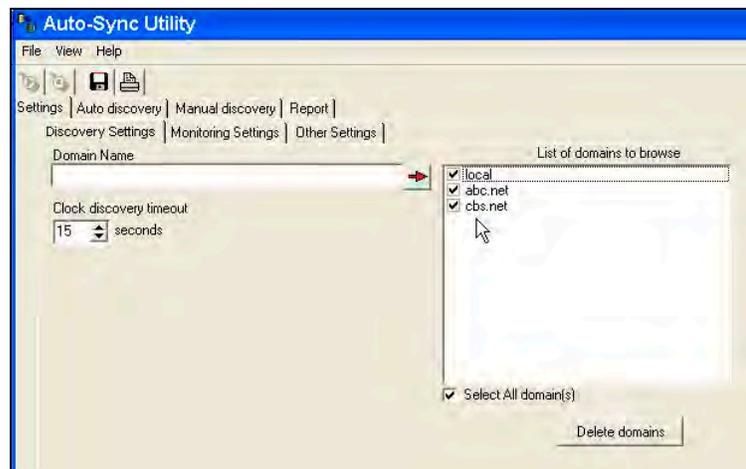

Figure 5-14. View Utility Settings – Discovery Settings.
- **Settings** – Use this function to enter discovery settings for Domain name to allow discovery in multiple domains. Also, set clock discovery timeout of Auto-Sync Utility function. Domains can be deleted from the list to browse (see *Figure 5-14*).
NOTE: Each domain will be searched for the amount of time set in the “Clock discovery timeout” field before searching the next domain in the “List of domains to browse” list on the right (see Figure 5-14 for an example).